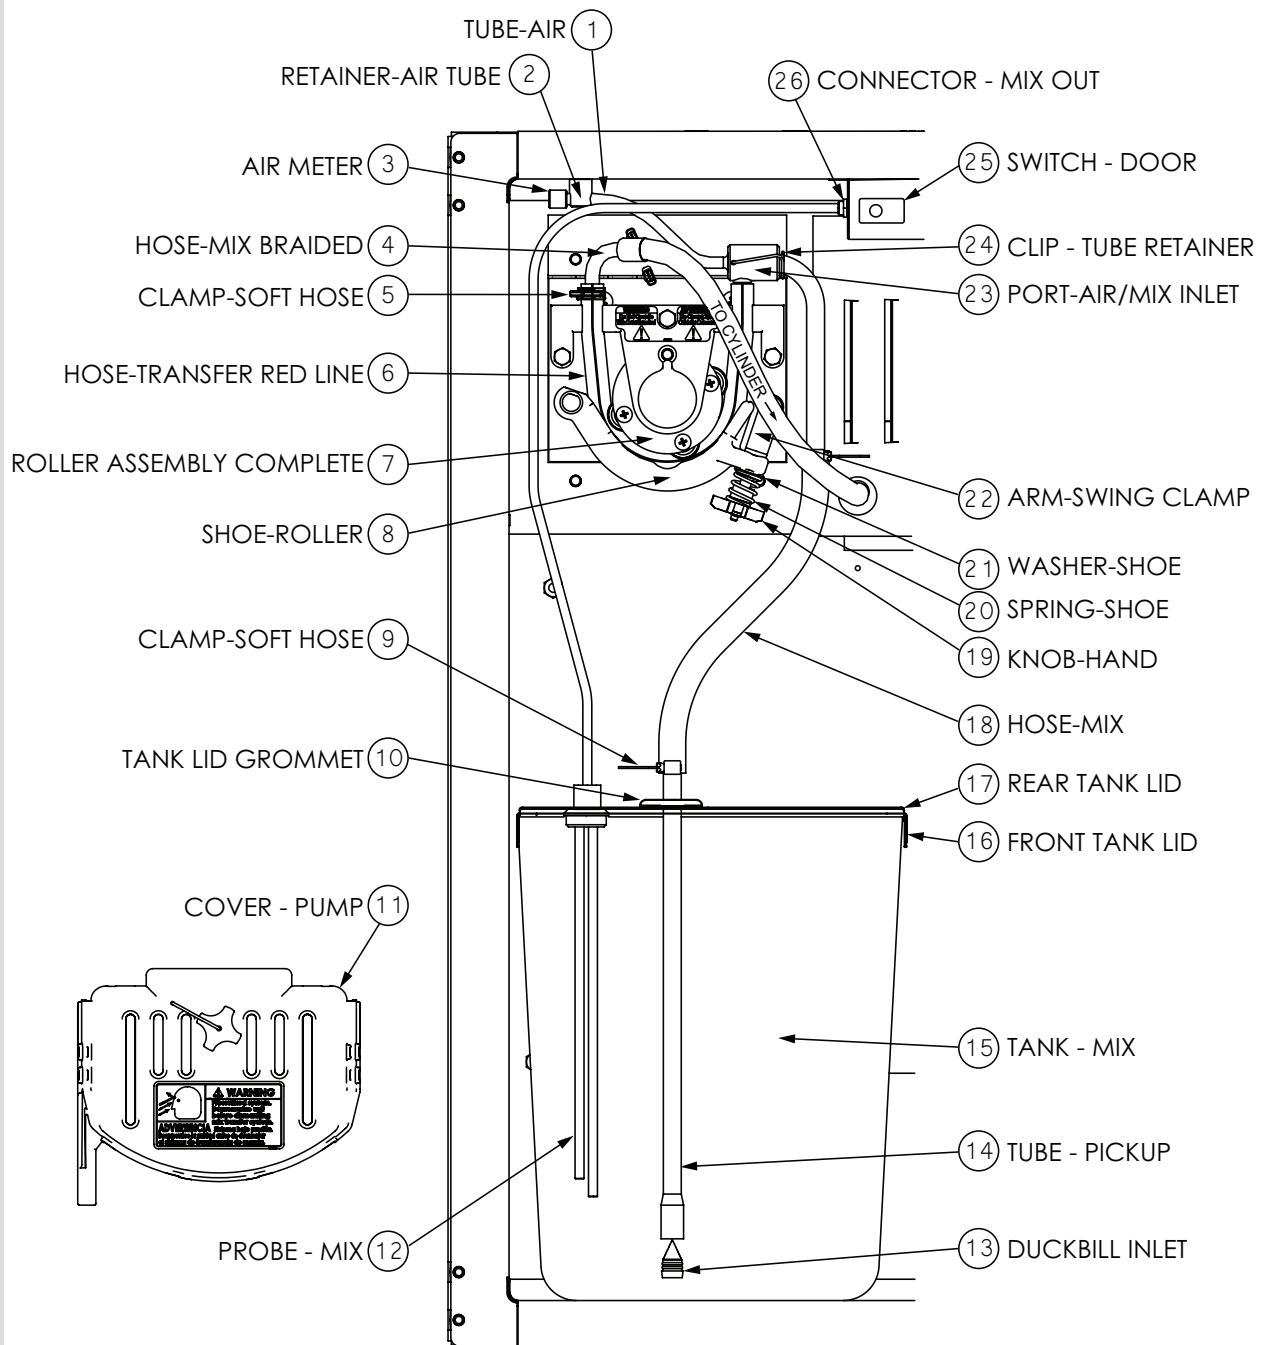

Figure 8-7 MTS (LEFT SIDE*)
19. Check to ensure the transfer hose is straight and centered on the roller assembly making sure the locating line is facing out. The line should be in the same position at the inlet and outlet guides of the roller bearing support, as shown in figure 8-7.
20. Swing the shoe (C) over hose and tighten the swing clamp (B) hand knob (A) in place until it bottoms out and will not turn any further.
21. Insert the air tube into the retainer (F) in the back of the cabinet.
22. Insert the MTS cover over stud see figure 8-7. Hose clamps should be exposed. Tighten cover knob. Hand tighten only.